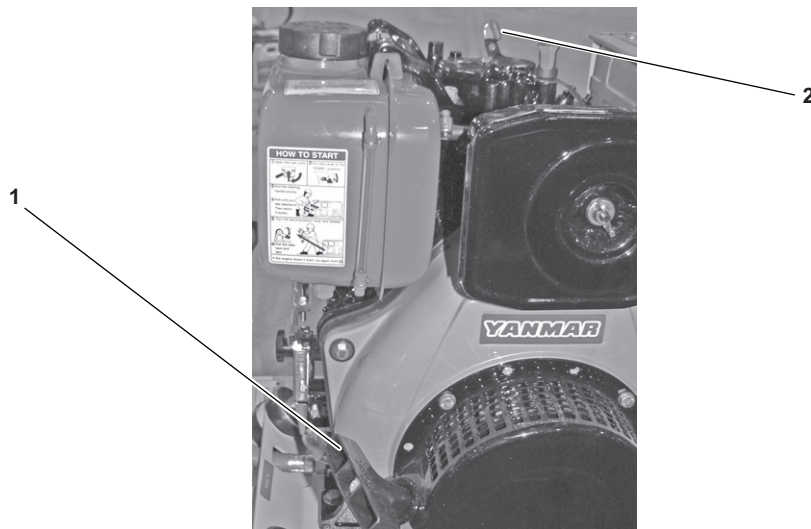

Figure 2-18. Recoil Starter Handle and Decompression Lever
- m. Slowly pull the recoil starter handle (figure 2-18, item 1) straight out until resistance from the starter is felt. Slowly return the handle.
- n. Push down on the decompression lever (figure 2-18, item 2), ensuring that the decompression lever stays in the down position. This relieves internal engine pressure and allows the engine to start in an unloaded state.
- o. Quickly pull the recoil starter handle (figure 2-18, item 1) out to its full length. Repeat steps m through o as many times as necessary to start the engine. Do not use excessive force when starting the engine. Using excessive force when pulling the recoil starter handle may damage the internal components of the recoil starter.